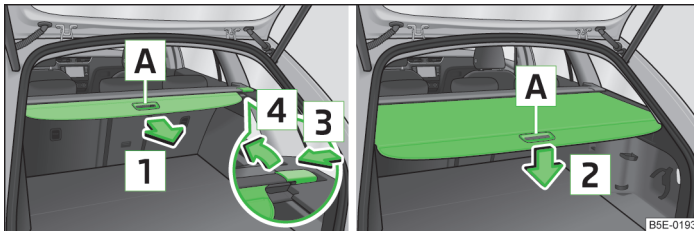

Fig. 89 Pull out and remove the roll-up luggage compartment cover/roll up roll-up luggage compartment cover
- Grasp the cover on the handle **A** » Fig. 89 and pull it out in the direction of the arrow **1** until it clicks.
- Push the cover in the area of the handle **A** » Fig. 89 in the direction of the arrow **2**.
- Push on the side of the crossbar in the direction of the arrow **3** » Fig. 89 and remove the cover in the direction of the arrow **4**.